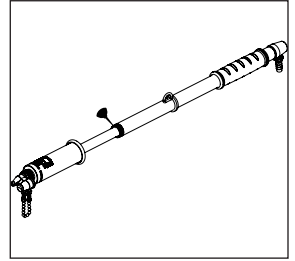

Figure 6.
2. Apply a few drops of light oil or grease at the gland nut to ease the pump operation. **See Figure 6.**